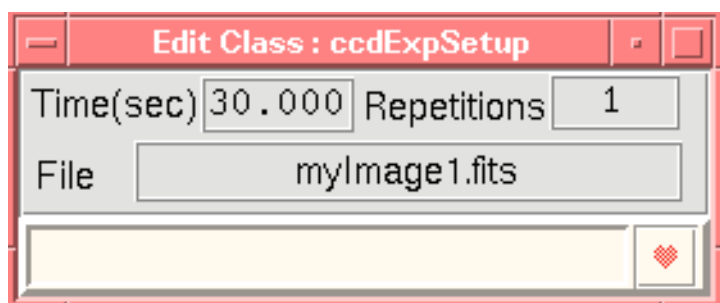

Fig.2 Exposure setup GUI class
1. **ccdExpStatus_uifClass**. It displays the status of an exposure. See also Fig.2 and manual page at section 3.4
2. **ccdExpSetup_uifClass**. It displays the main setup parameters of the most recently started exposure. See also Fig.2 and manual page at section 3.4
3. **ccdReadoutSetup_uifClass**. It displays the read-out setup parameters of the most recently started exposure. See also Fig.2 and manual page at section 3.4